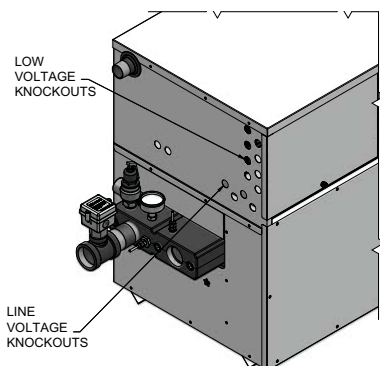

Figure 5-2_Routing Field Wiring
1. Route all low voltage wires through the knockouts on the left side of the heater, as shown in FIG. 5-2.